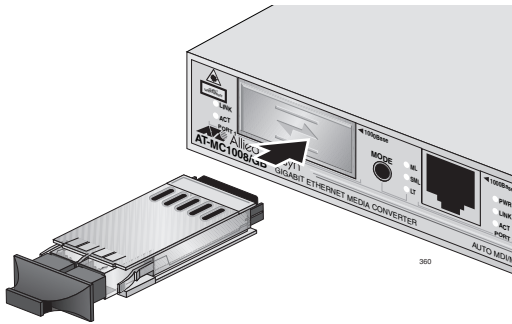

Figure 11. Installing a GBIC Transceiver
- Slide the GBIC transceiver into a GBIC slot on the converter, as shown in Figure 11, until it clicks into place.